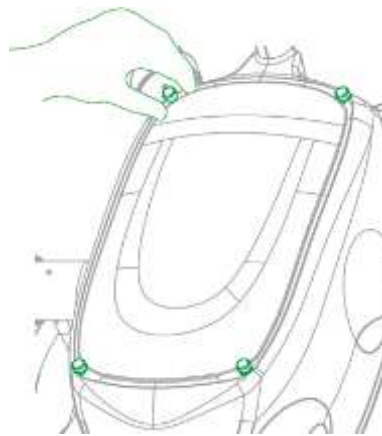

Figure 3-17
Step 1 Loosen 4 set screws of battery compartment cover and then open the battery cover, as shown in Figure 3-17.